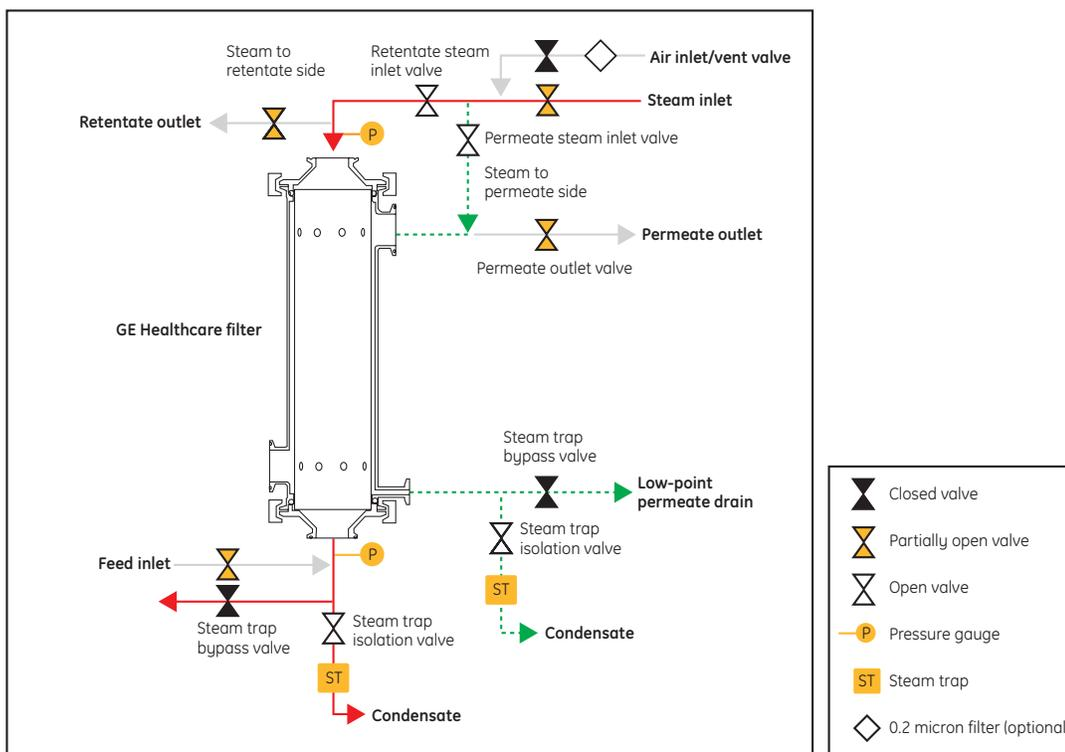

Figure 8. Starting setup for Stage 2—introduce steam, flush, and hold
1. Crack open the steam inlet valve or adjust regulator to 0.07 barg (1 psig). Steam and water should trickle from the steam trap bypass valve (feed). Adjust the steam inlet valve so that the system outlet temperature reaches about 100°C (212°F) in five to ten minutes (Fig 8).